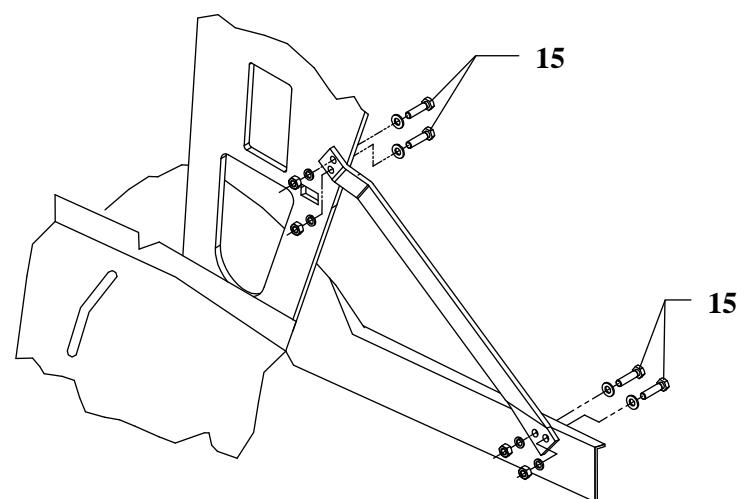

Fig. 4 Fix by M10x30mm bolts as shown in the figure.
5. Fix reinforcements to bodywork and construction of a car using bolts M10x30mm (pos. 15) as shown in the figure 4.
6. Similarly install reinforcement pos. 8 on the left side inside the trunk.